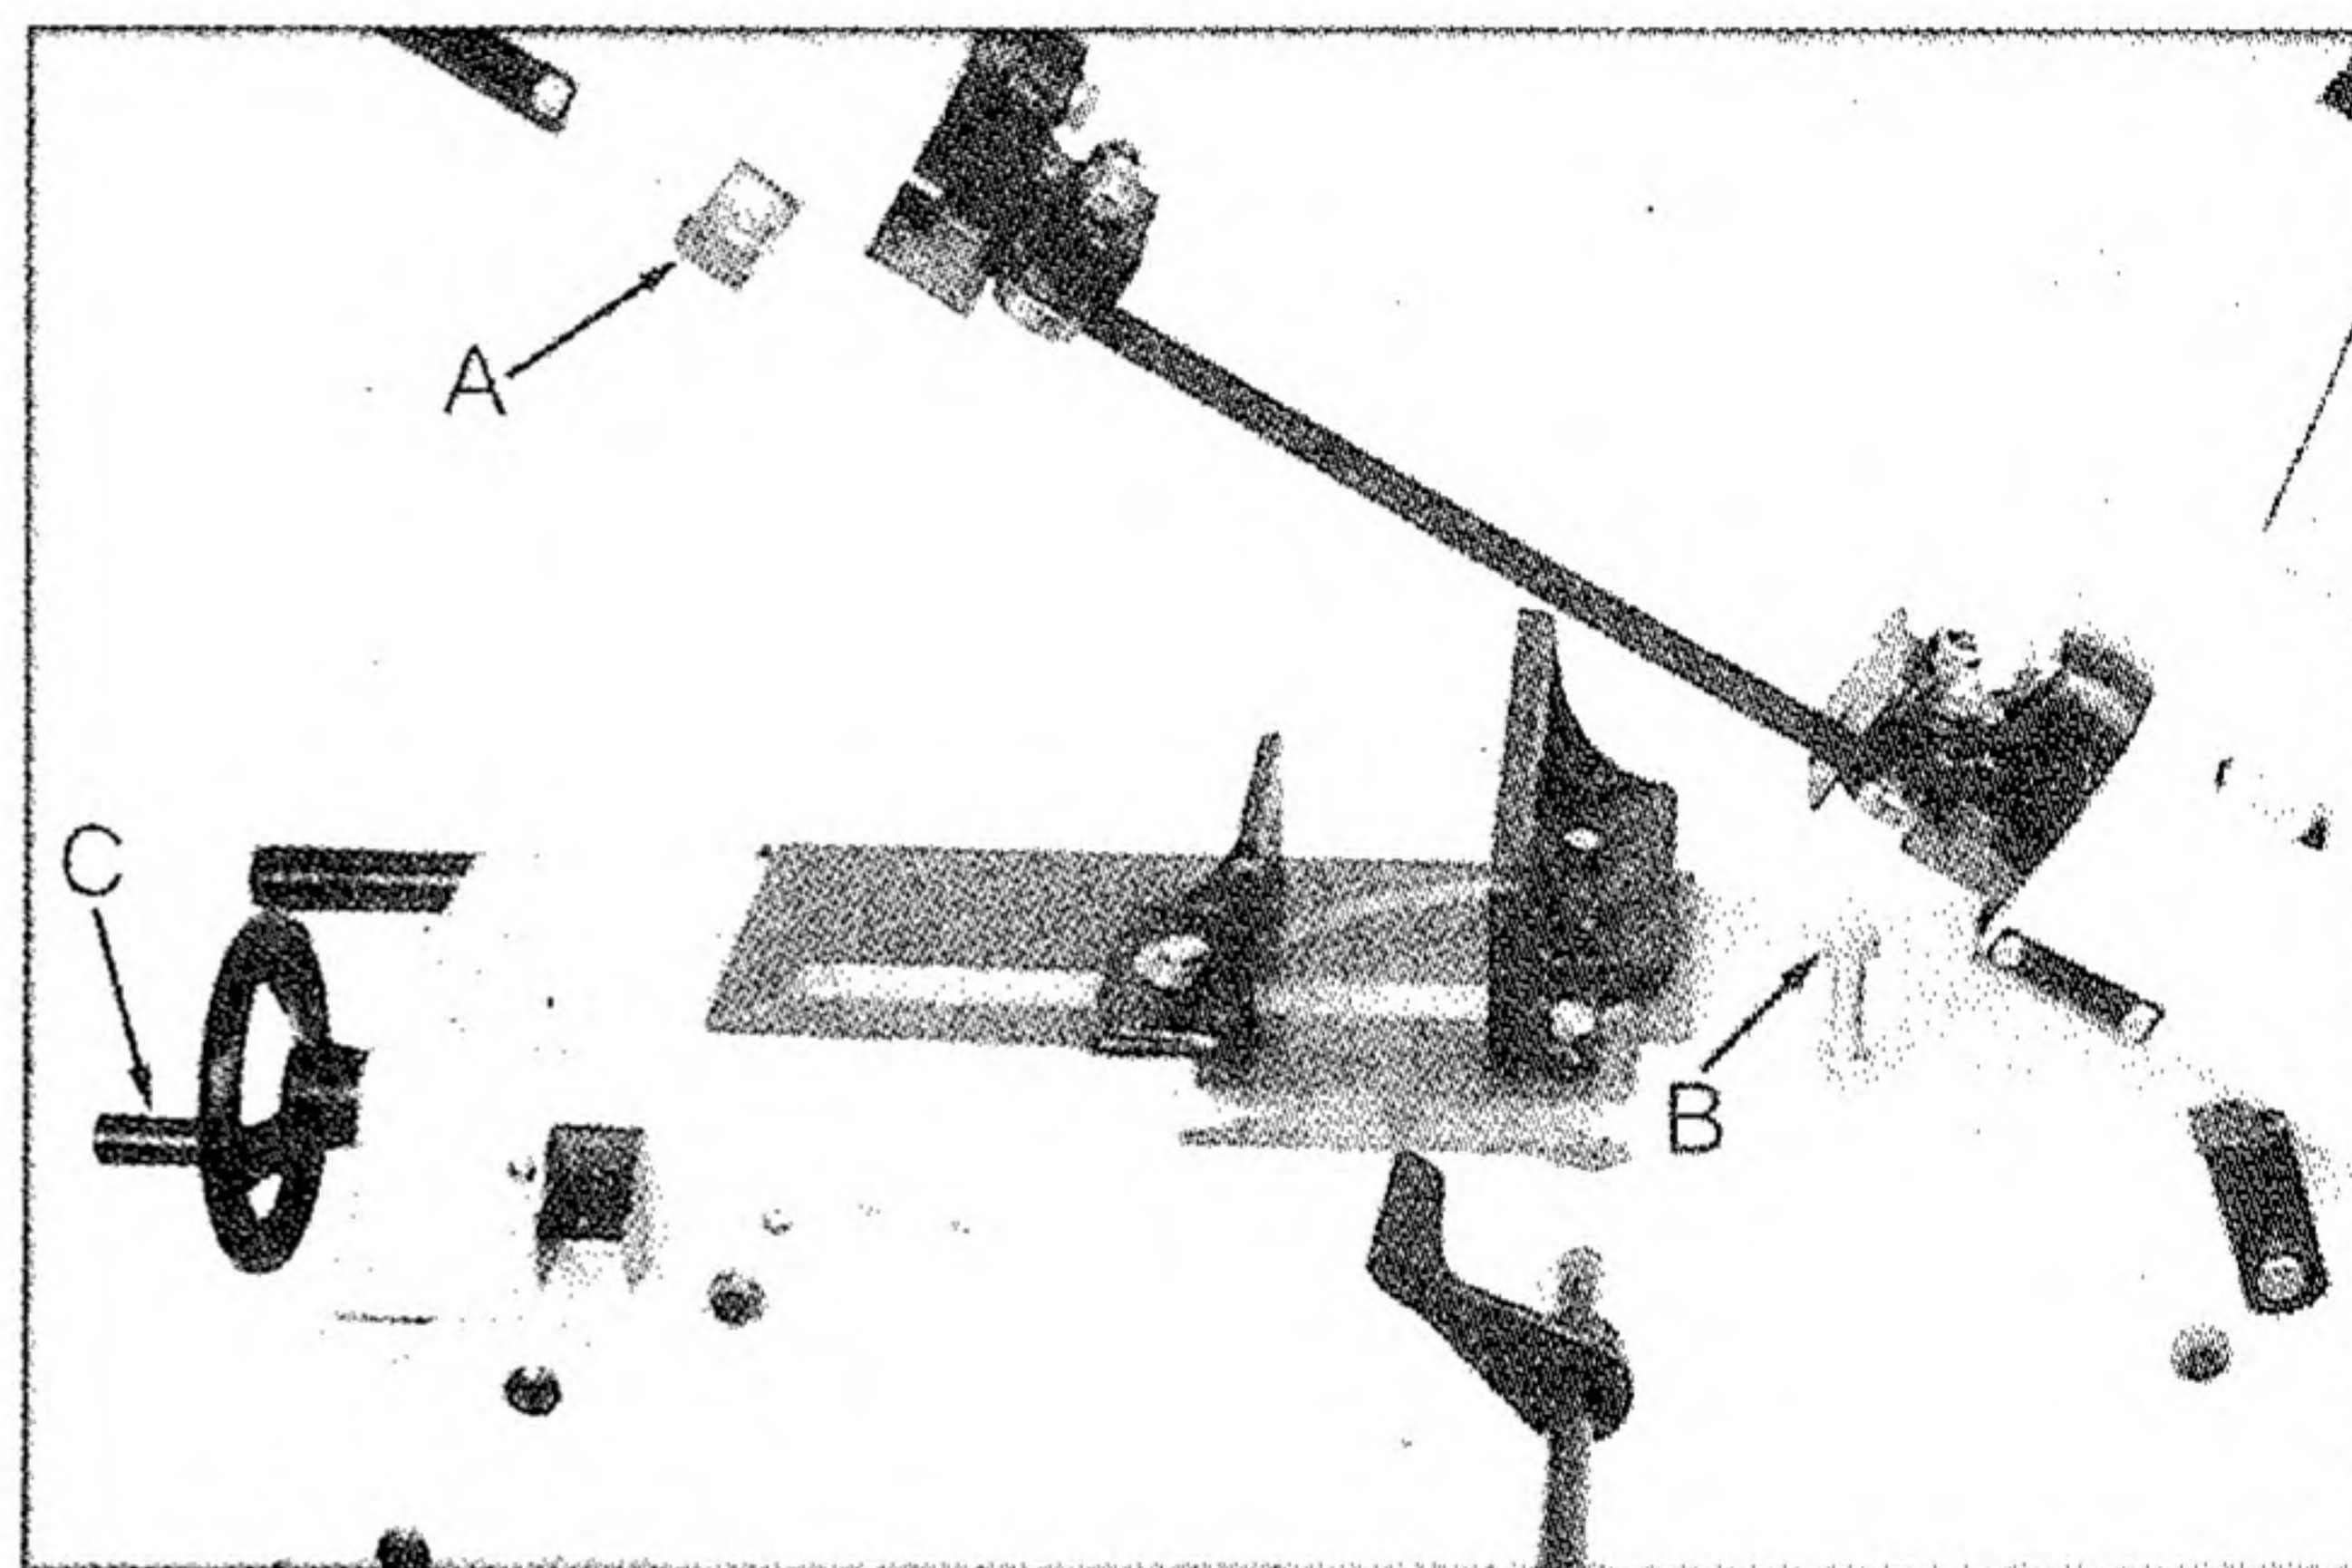

Fig. 17
- If the saw completes the cut and continues to run, adjust the stop tip (A, Fig. 17) down.
- If the saw shuts off before the cut is complete, adjust the stop tip (A, Fig. 17) up.
- If the saw stops cutting but continues to run, adjust the stop bolt (B, fig. 17) down.
1. To open and close the vise use the handwheel (C, Fig. 17).